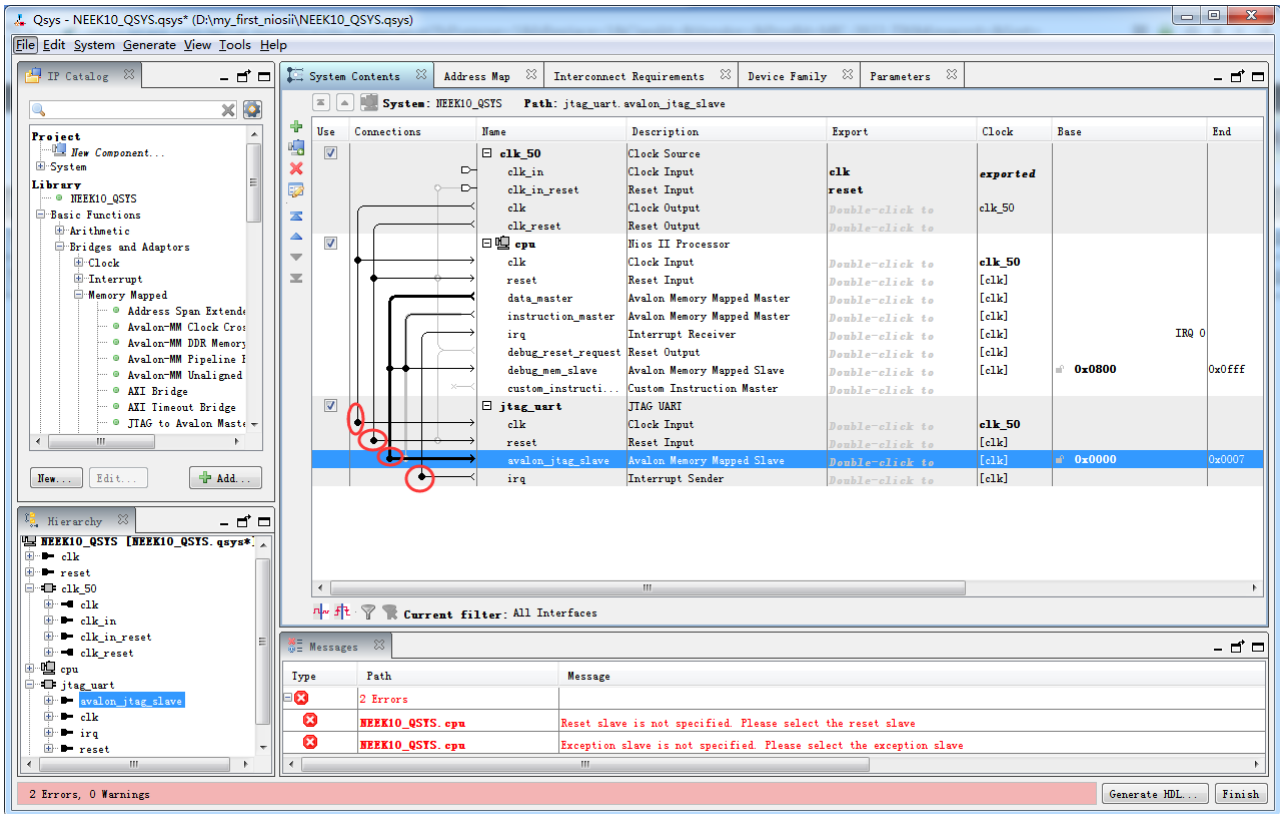

Figure 1-21 Rename JTAG UART
12. Rename **jtag_uart_0** to **jtag_uart**. Connect its **clk** and **reset** to the **clk** and **clk_reset** of **clk_50**, respectively. Its **avalon_jtag_slave** is connected to the **data_master** of **cpu**. Figure 1-21 shows the complete connections.